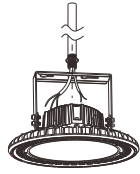

Figure 9
2. Make the corresponding holes on the bracket through the 1/2" NPT. (Figure 9)